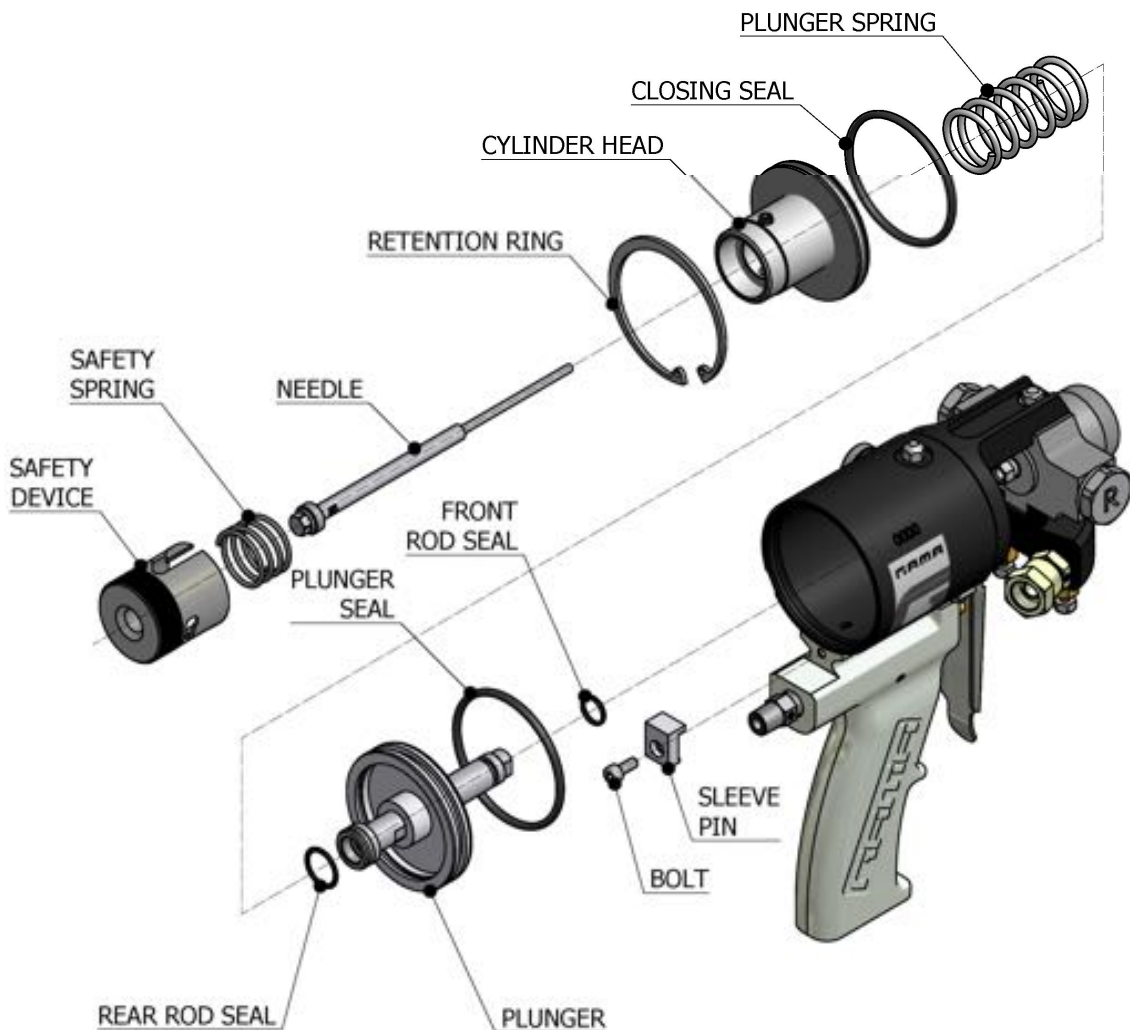

Figure. 22
4. Unscrew the bolt fixing the sleeve pin at the rear of the gun (see **Figure. 22**, page 26).
5. Remove the retention ring that positions the cylinder head with pliers for removing seeger rings (see **Figure. 22**, page 26).
6. Remove the pneumatic cylinder head (see **Figure. 22**, page 26).
8. Pull hard on the plunger to remove the whole unit from the cylinder sleeve. Also remove the plunger spring (see **Figure. 22**, page 26).